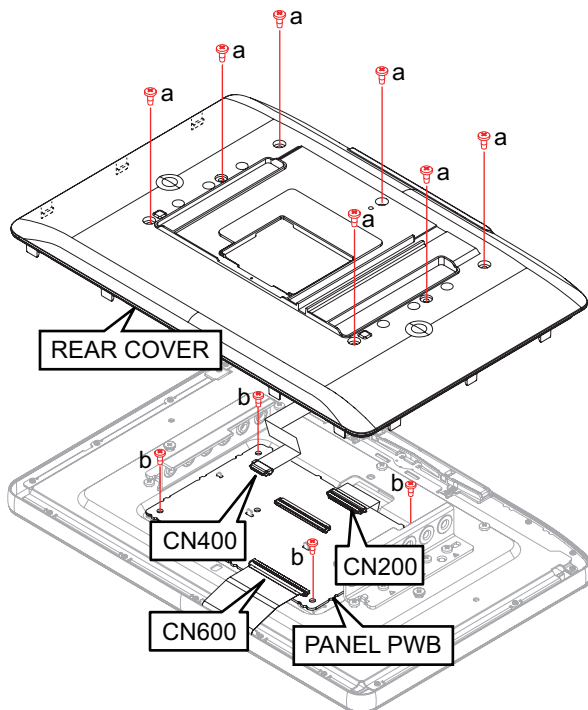

Fig.8
3.1.3 Removing the PANEL PWB (See Fig.8)